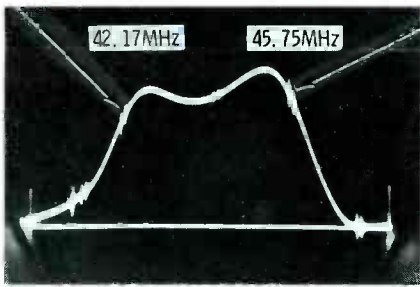
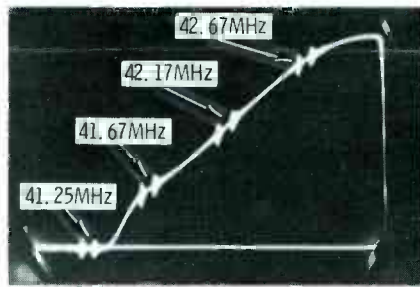

Fig. 7 The normal link curve.
Fig. 8 Expanded sound trap marker for precise adjustment.
**Note:** Admiral advises that the 45.75-MHz side of the curve should be aligned slightly high when the transistorized link-amplifier is used. Link alignment is very important, and the correct curve (Fig. 7) should be obtained before you go on to the next step. Then remove the link-amplifier assembly.
8. Reduce the **sweep width** and adjust the **tuning** dial to a lower frequency to expand and center the 41.25-MHz trap marker, as shown in Fig. 8. Alternately adjust the top core of L7 (A1) and R17 for minimum response at 41.25 MHz. Be precise; satisfactory reduction of the 920-KHz beat pattern depends mainly on this adjustment.
5. Following the component numbering system used in PHOTO-FACT folder 949-1, adjust L215 (on the tuner) and L2 (A6 on the IF board) to approximate the curve shown in Fig. 7. Alternately adjust L1 (A2) and R16 (trap balancing control) for minimum response at 47.25 MHz. For better accuracy of the trap adjustment, widen the curve by decreasing the sweep width to about 2 MHz and moving the tuning dial to about 47 MHz to bring the trap marker to the center of the screen, as shown in Fig. 8 (which is the other trap). Increase the scope gain to maximum (if the curve is large enough, allow the top of the curve to extend off the screen), reduce the marker height and adjust L1 and R16 again, being careful that each is set for a definite